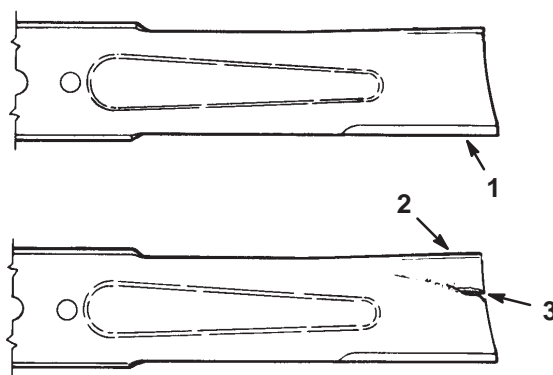

Figure 39
1. Inspect the cutting edges (Fig. 39). If the edges are not sharp or have nicks, remove and sharpen the blades. Refer to Sharpening the Blades on page 33.
2. Inspect the blades, especially the curved area (Fig. 39). If you notice any damage, wear, or a slot forming in this area (item 3 in Fig. 39), immediately install a new blade.